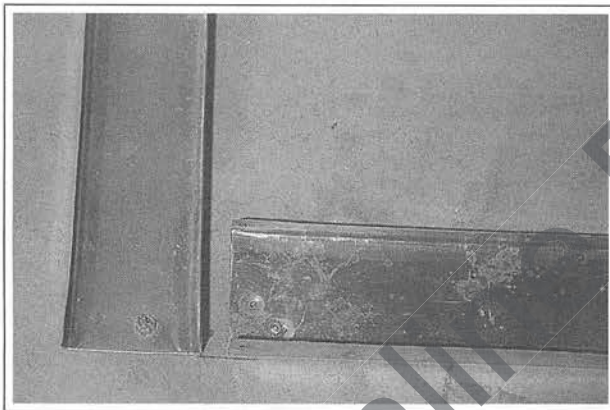

Figure 1-38. Here we see the bottom plate of a 3⁵/₈-inch wall forming an inside/outside corner, leaving a 3/4-inch gap for the drywall to slide inside the wall.
1. The *inside/outside corner* is shown properly plated in Figure 1-38. This corner is a widely-accepted method of plating an inside/outside corner.